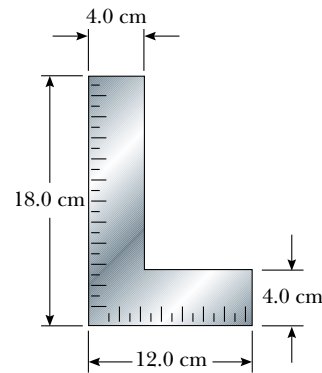

Figure P12.7
7. A carpenter's square has the shape of an L, as shown in Figure P12.7. Locate its center of gravity.